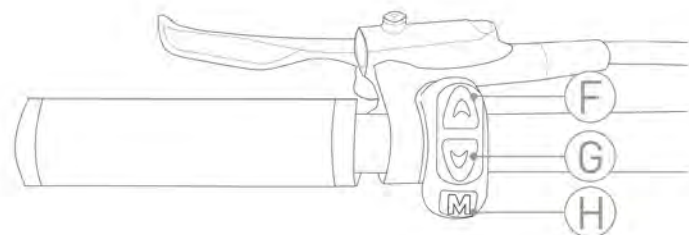

FIG. 5
To activate the walking assistance function, press and hold the "DOWN" button (ref. G in Figure 5). The engine will activate, and the appropriate warning will be displayed on the display. The engine will shut down in the following cases:
- Release of the "DOWN" button (Ref. G in Figure 5)
By simultaneously pressing the "UP"+"DOWN" buttons (Ref. F - G - Figure 5) for two seconds you can open the menu screen. From any screen, by holding down the "POWER" button for 2", you can return to the last Home screen displayed. Once inside you can move in the menu with the "UP" and "DOWN" buttons and press "POWER" as send.
Before pressing the F and G keys at the same time (Figure 5) position yourself firmly on the bike and apply the brake, so as not to unintentionally operate the departure from a standstill.